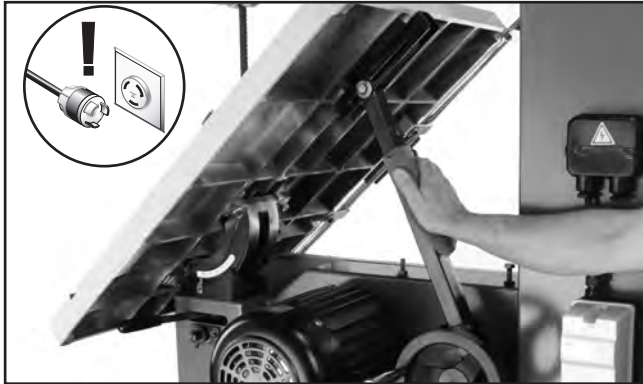

Figure 56. Table tilt rack and pinion assembly.
3. Move table up to its maximum 45° angle and wipe (see **Figure 56**) off all existing grease and sawdust buildup from rack.